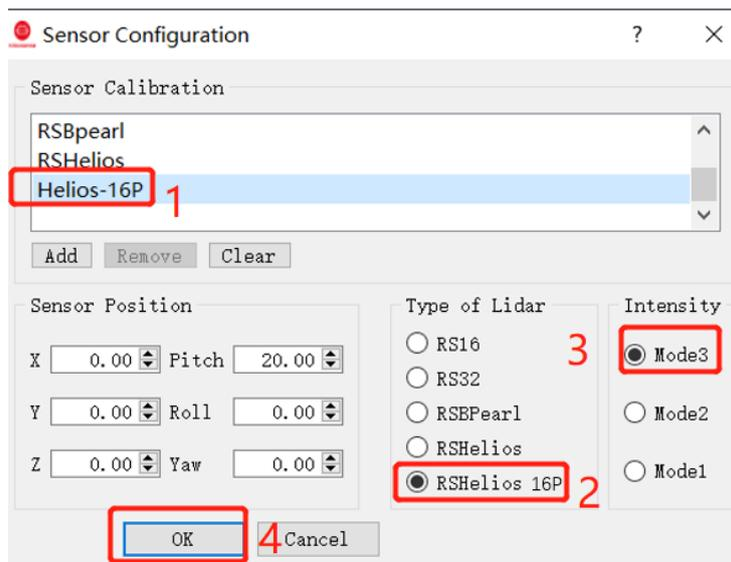

Figure C-2 Select RS-Helios-16P Parameter Configuration File
4. The Sensor Configuration dialog will appear. In "Type of Lidar", chose RSHelios-16P. In "Intensity", chose Mode3. Then click **OK**, as shown in Figure C-2: